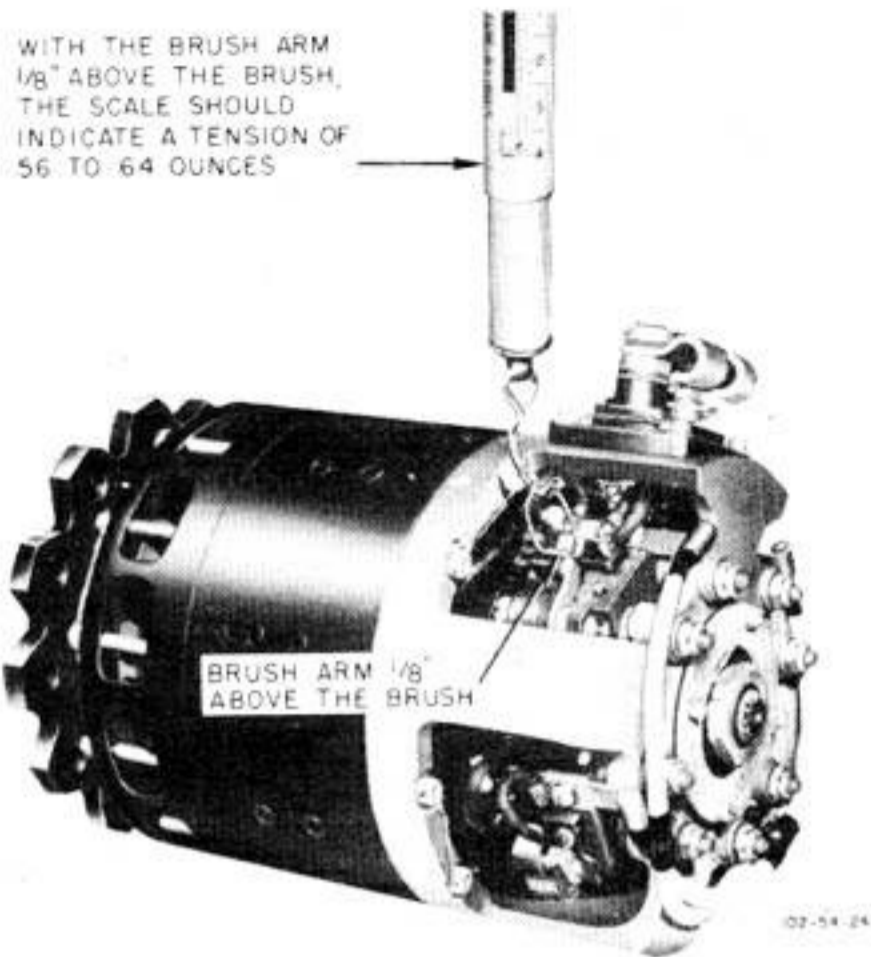

Figure 341—Measuring Generator Brush Tension
- b. Hook a spring scale underneath each spring, and lift the end of the spring $\frac{1}{8}$ inch above the brush box. (See figure 341.) If the tension does not measure between 56 and 64 ounces, send the generator to the overhaul shop as this adjustment requires disassembly of the generator.